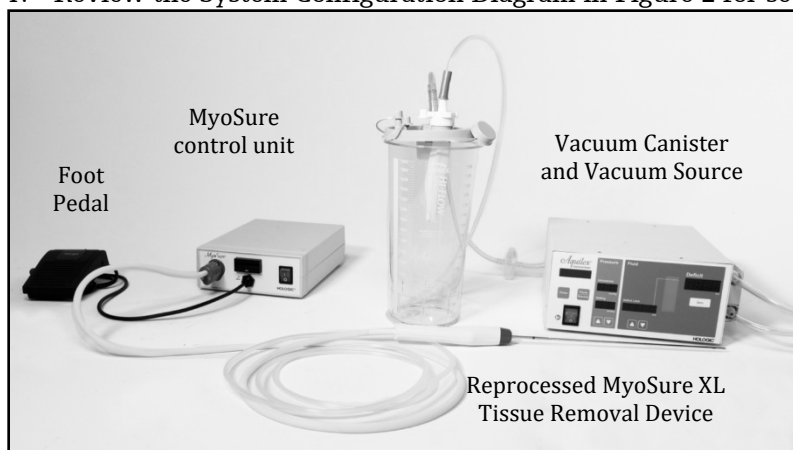

FIGURE 2: SYSTEM CONFIGURATION
1. Review the System Configuration Diagram in Figure 2 for set-up outline.